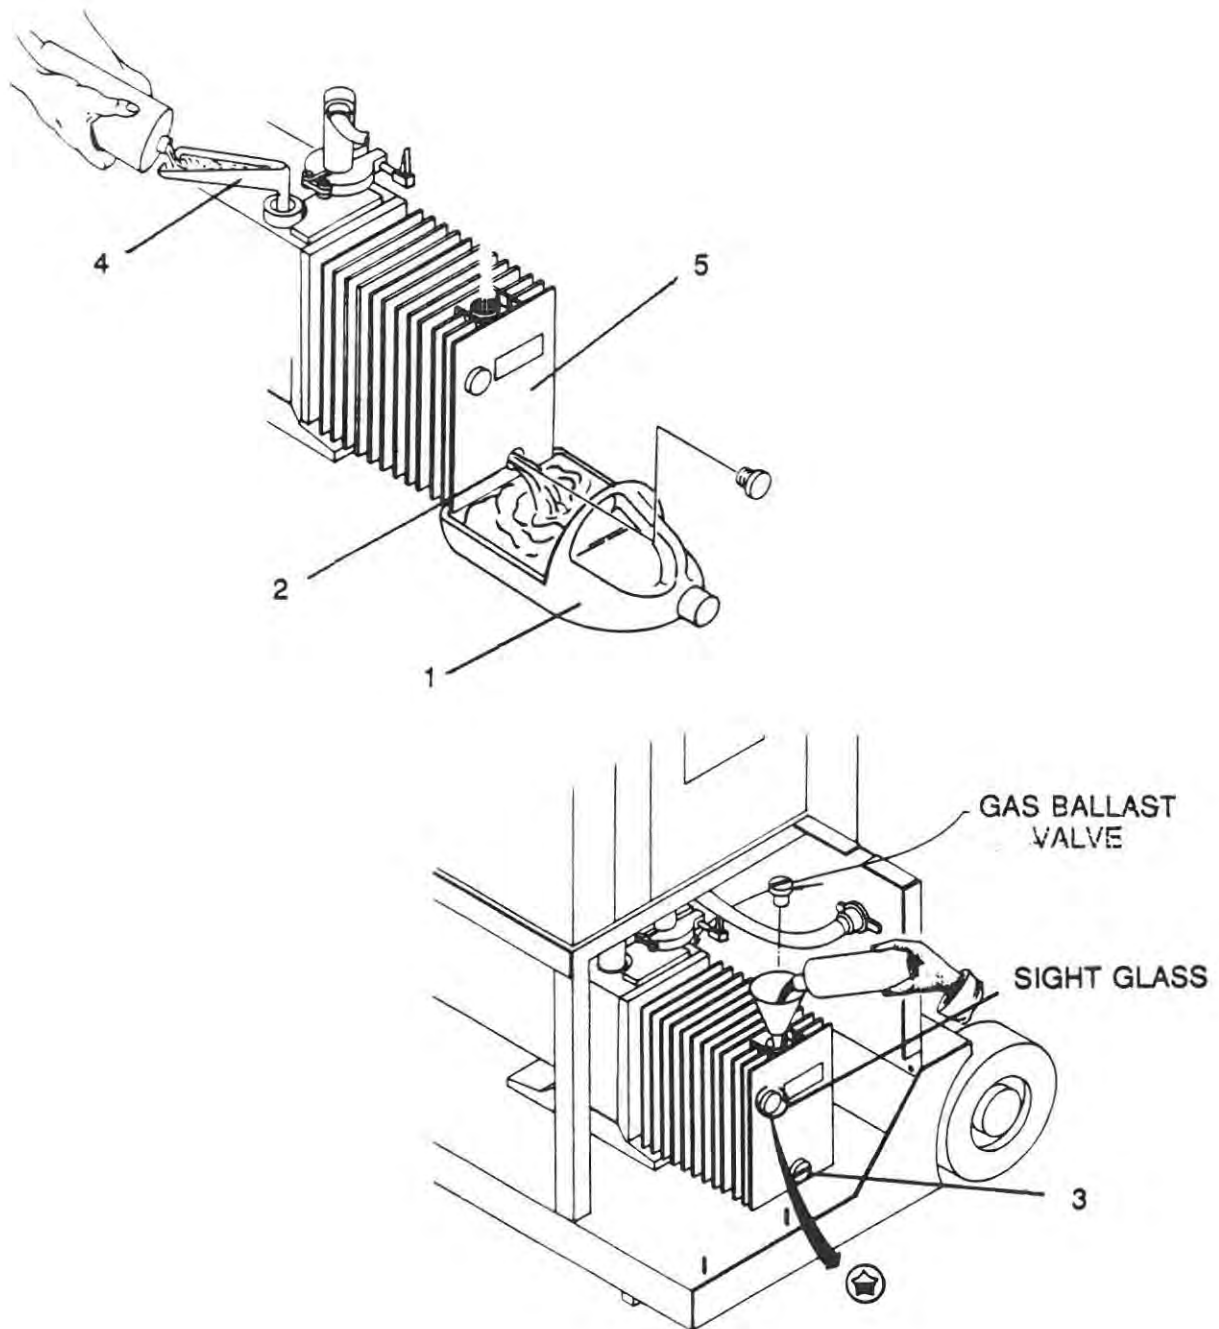

Figure 5-2. Rough Pump Flush and Oil Change.
##### **b) Rough pump flush and oil change (See Figure 5-2)**
- 5 Place a suitable drain pan (1, Figure 5-2) under the rough pump drain (2) and remove the drain plug (3). After the oil is drained, replace the plug.
- 6 With an offset funnel (4) in place in the pump inlet (not the front fill hole), plug in the rough pump (5) to turn it on and **SLOWLY** pour in approximately 1 cup of VARIAN pump oil, part no. 0491-K7516-302.
- 7 Unplug the rough pump to turn it off. With the drain pan (1) in place, remove the drain plug (3) and allow the pump to drain.
- 8 Replace the drain plug (3) then fill the pump through the fill hole on top of the pump.